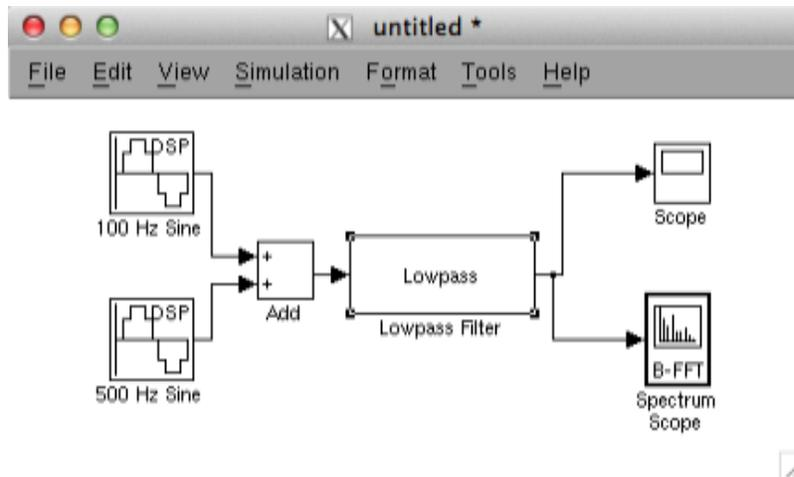

Figure 12. Model with Filter added
1. Select the Lowpass Filter from the DSP Systems Toolbox → Filtering → Filter Designs sub-library and re-wire the model as shown in figure 12 below.